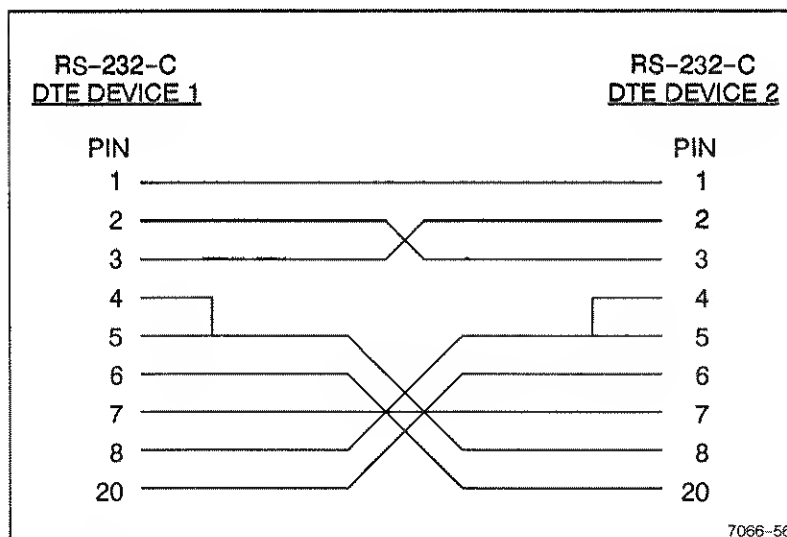

Figure B-1. Null Modem cable wiring (non-handshaking).
2. A Null Modem cable or device may be used to interconnect two DTE or two DCE devices. Generally the cable is custom made with RS-232-C connectors that match the devices to be interconnected. A null modem cable permits two devices of the same type (DCE to DCE and DTE to DTE) to communicate as if they were connected DTE to DCE. The Transmit and Receive lines and the associated handshake line are swapped in the null modem to satisfy the requirements for data transfer between the two devices. See Figure B-1 for the Null Modem cable wiring schematic.